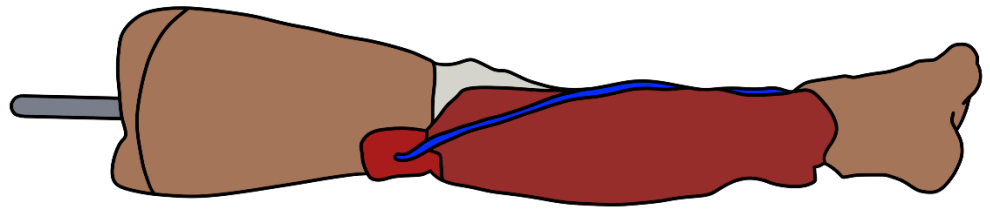

Figure 13. Superficial Posterior Compartment Attachment
- ii. Superficial Posterior Compartment (#2) will be attached to anchor point #2 on the top and peg #2 on the bottom (**Figure 13**). The Great Saphenous Vein installation will come already attached to the magnetic peg #4 and will run around as shown below and hook around anchor point #2.